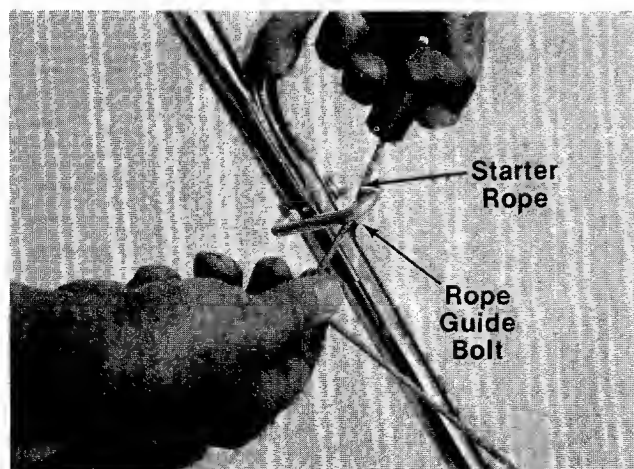

FIGURE 12.
21. Slip the starter rope into the rope guide bolt as shown in figure 12.